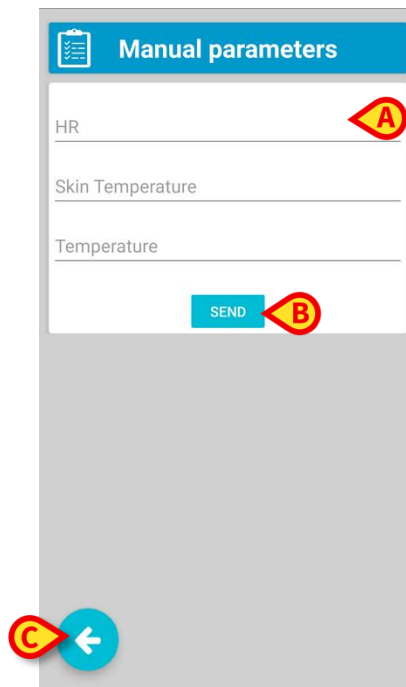

Fig 12
Fig 12 is displayed.
The list of available parameters changes according to the configuration (in the example: HR, Skin Temperature and Temperature). For data entry, tap any field to display the standard Android keyboard. All fields must be filled (Fig 12 **A**).
- Tap **Send** (Fig 12 **B**).
Use the **Back** button (Fig 12 **C**) to quit.